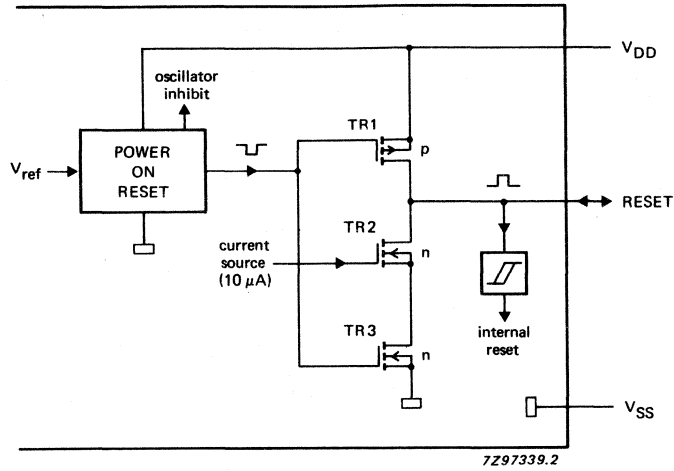

Fig. 22 Power-on-reset configuration.
1. If  $V_{DD}$  can be switched with a fast rise time i.e.  $V_{DD}$  reaches its minimum operating value (corresponding to the selected oscillator frequency) before the RESET signal has finished ( $t_D$ ), then no extra components are required (see Figs 22 and 23). Note that the first instruction is executed after the oscillator start-up time plus 1866 clock periods have elapsed.